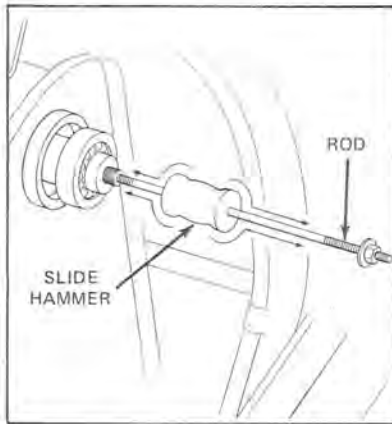

Figure 10-6
- h. Secondary shaft must be removed through sprocket side of chain case. Slide hammer (OMC Part No. 380658) and rod (OMC Part No. 312019) can be used for this purpose. See Figure 10-6.